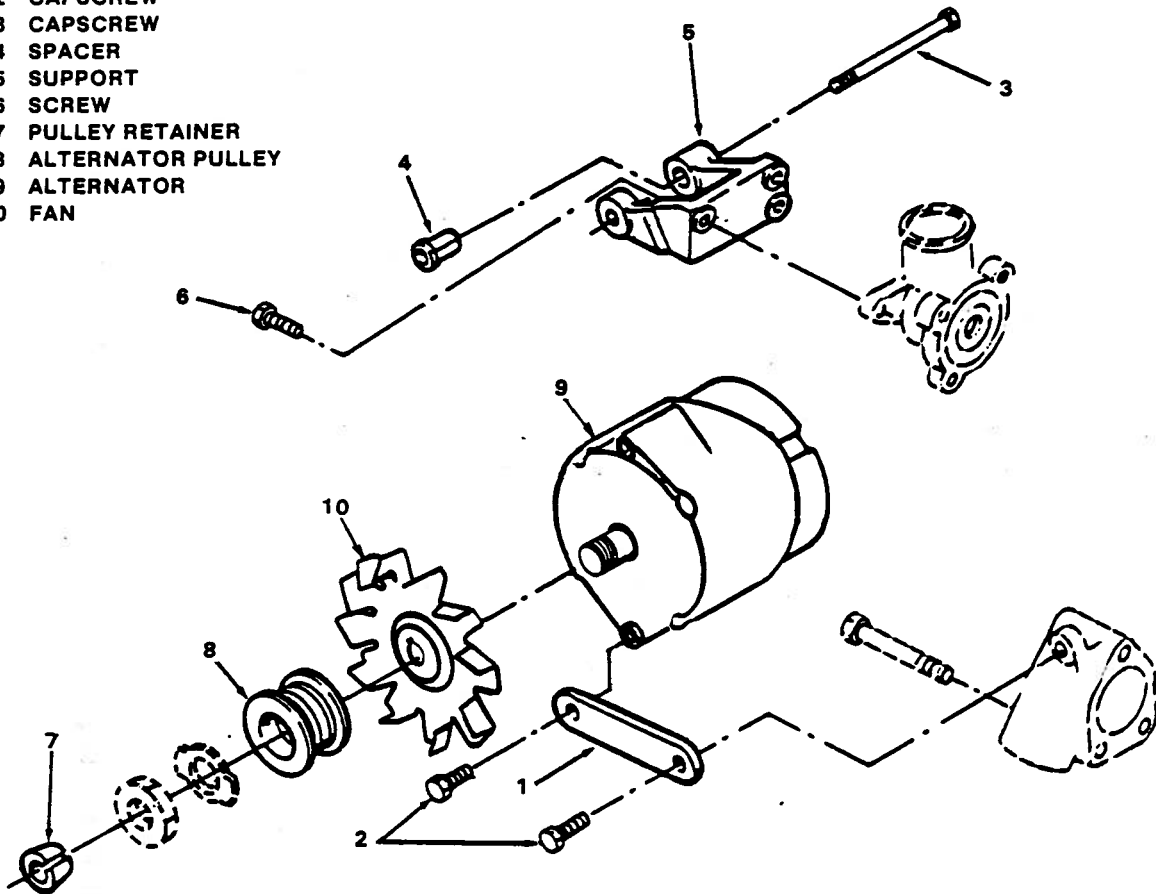

Figure 5-23. Alternator Installation
5-36. REMOVAL. (See figure 5-23.)
d. Remove capscrews (2, figure 5-23) and alternator brace (1).
e. Remove capscrew (3), alternator (9), and mounting spacer (4).
- k. Remove drive end shaft nut (22), drive end lockwasher (23), pulley retainer (7, figure 5-23),